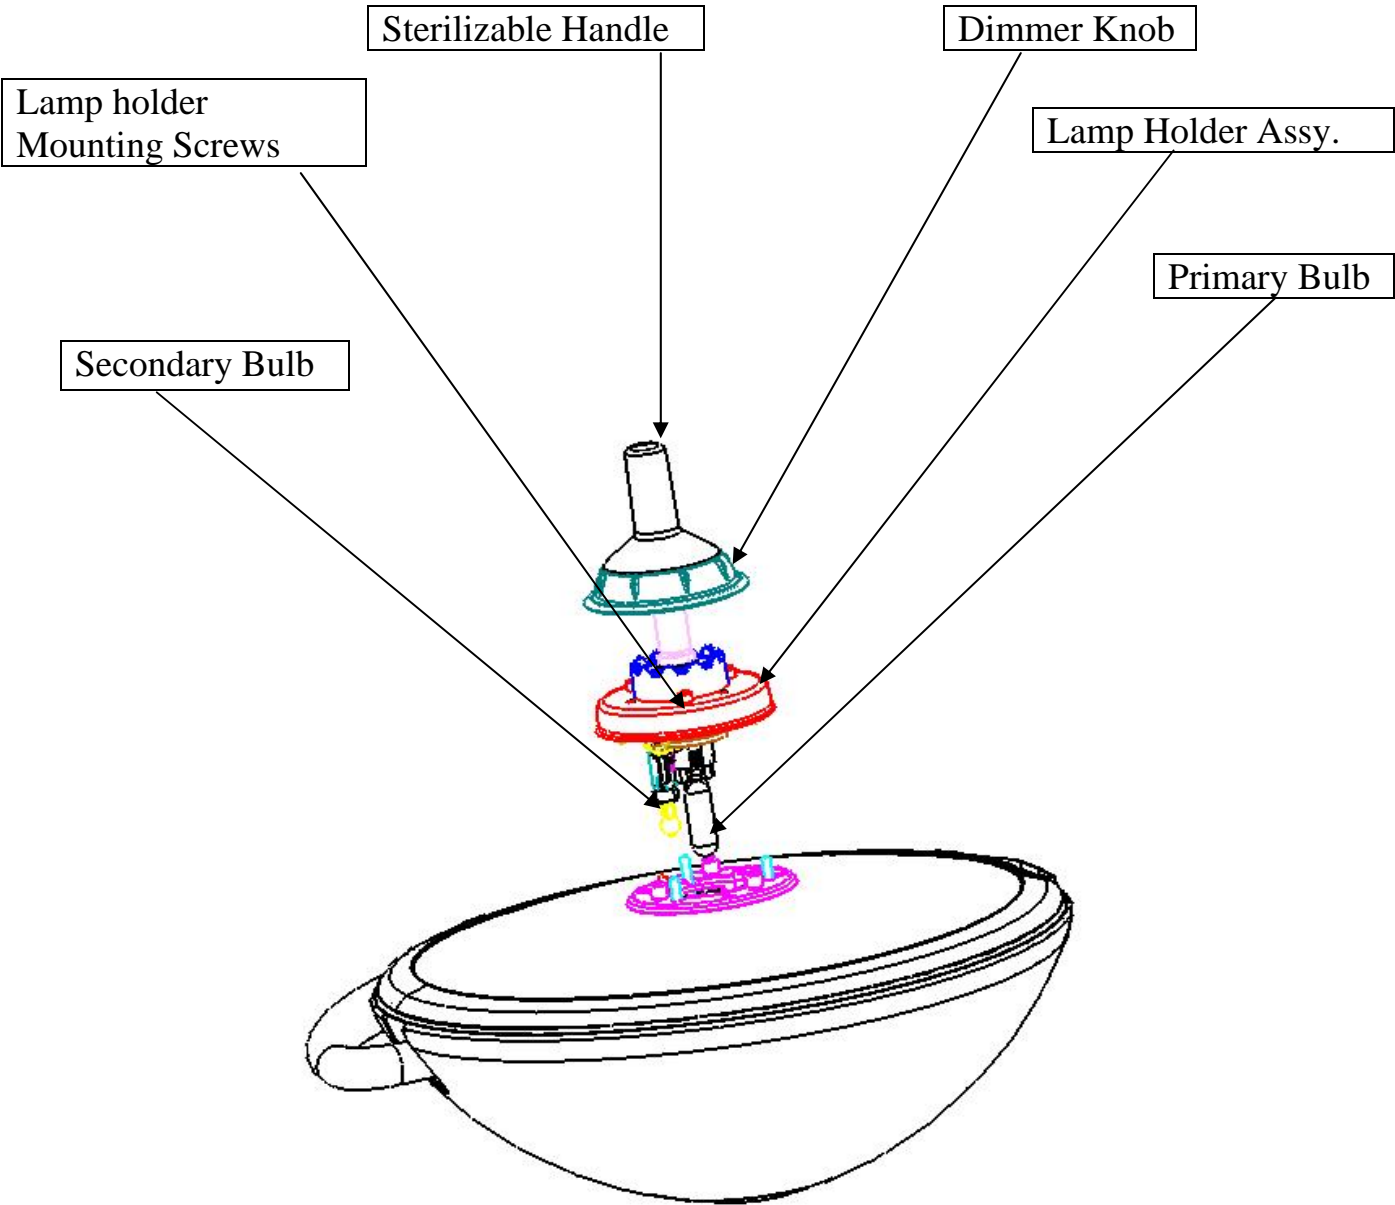

Figure 19: lamp Replacement
- At this time inspect the secondary bulb to ensure that it is in good condition. In case you need to replace the secondary bulb (80 Watts halogen bulb), the Medical Illumination International P/N is 0003473. It is recommended to change the secondary bulb every time you change the primary bulb. See Figure 19 for bulb replacement.